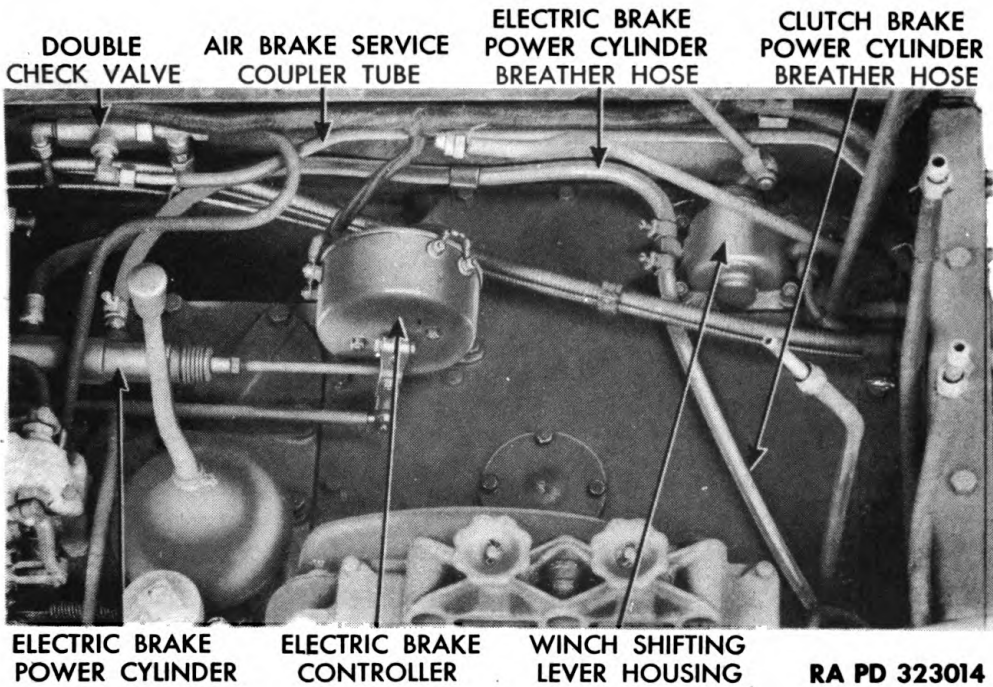

Figure 13 – Tubing and Cables Along Right of Driver's Seat Support
- l. Remove Clutch Power Cylinder Bracket Assembly.** Remove clutch shifting valve hose (fig. 14). Remove clutch brake application valve to adapter tube (fig. 12). Remove air separator to manifold tube (fig. 14). Remove air brake emergency coupler tubes with tee (fig. 14). Remove transmission oil pressure tube (fig. 14). Remove air brake service coupler tube (fig. 13). Remove left and right fuel filter to fuel tank tubes. Remove three cap screws, nuts, and lock washers attaching front control bracket to clutch power cylinder bracket (fig. 14). Remove two cap screws and lock washers from inside left front compartment, permitting forward end of compart-
n. Remove Transmission Case Cover. Remove six cap screws, three nuts, and six lock washers attaching crossmember brace (fig. 12) to rear of transmission cover and to crossmember, and remove brace. Remove winch shifting lever vent tube (fig. 12). Remove two hoses attached to tee on winch shifting lever housing (fig. 13). Remove four nuts and lock washers attaching winch shifting lever housing (fig. 13) to transmission cover, and lift winch shifting lever housing and gasket from studs in cover. Remove four cap screws and lock